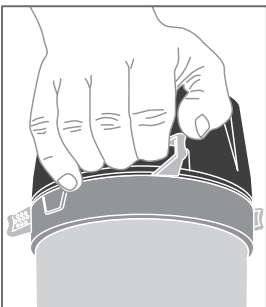

fig 8
- Rotate the clips unlocking the pump assembly and open the filter by levering on the special slots using your fingers -Fig. 8-.
- Open the clips until they click out of the locking position and take apart the pump assembly from the filter by levering on the special slots -Fig. 8-.